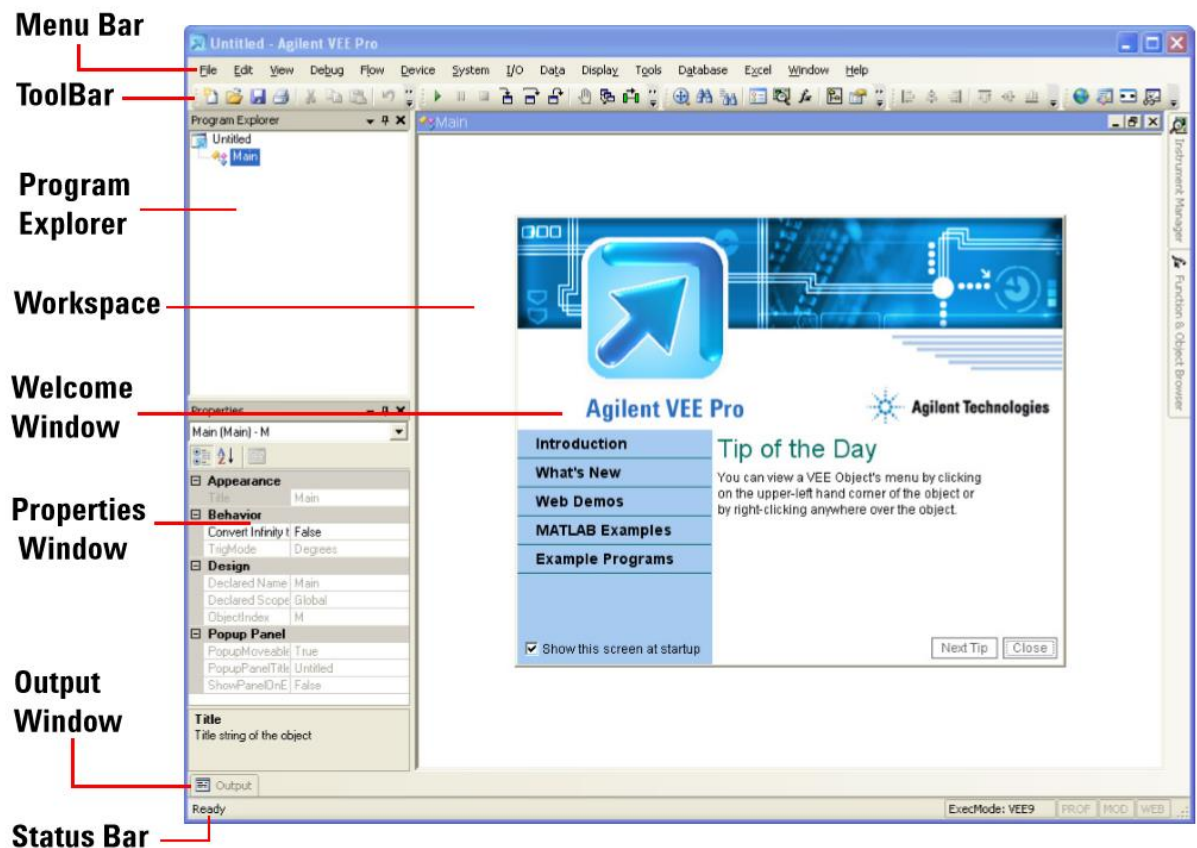

Figure 1: VEE home screen
1. In order to start the process, you need to open the VEE pro application and get to the home page to start a new window. This initial welcome home screen will appear which is shown in figure 1. Select the close button to continue onto the main window.